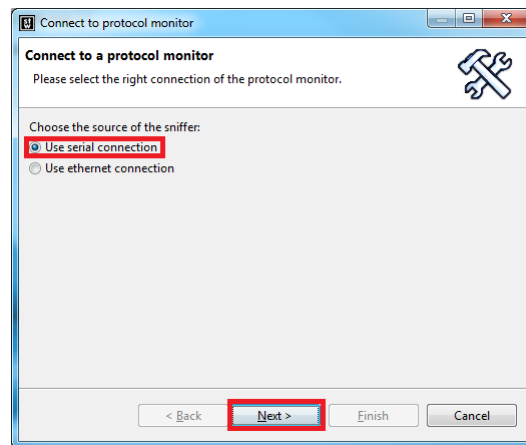

Figure 51: Select the serial connection
- (3) Choose the serial connection and press 'Next'. (See figure 51.)